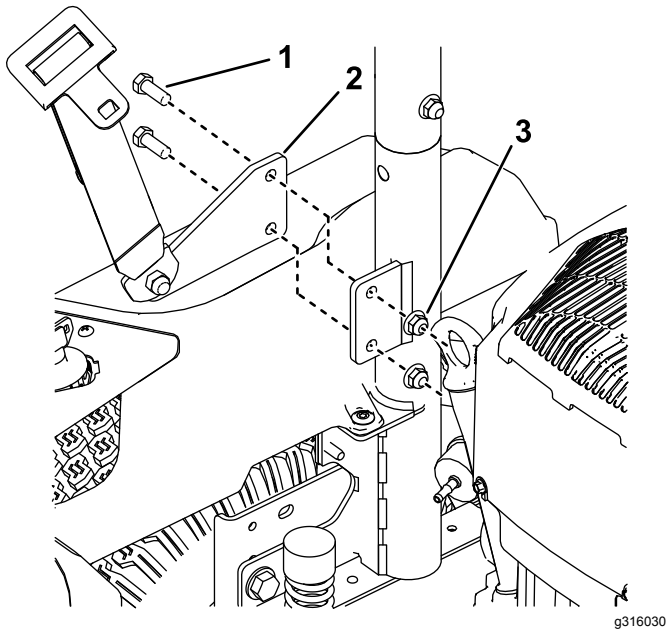

Figure 13
2. Install the seat belt brackets to the outside of the ROPS mounts (Figure 13).
5. Install the left pod bracket to the machine frame using 2 thread-forming screws (5/16 x 3/4 inch) as shown in Figure 13.